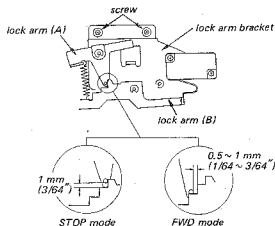

Fig. 3-9. Lock arm bracket position adjustment
1. Make sure that the clearance between the lock arm (A) and the lock arm (B) is 0.5 ~ 1 mm (1/64 ~ 3/64") in the FWD (or REV) mode. In the STOP mode the clearance between the lock arm (A) and the lock arm (B) should be approximately 1 mm (3/64"). See Fig. 3-9.
2. Loosen the two lock arm bracket holding screws, if necessary. See Fig. 3-9.